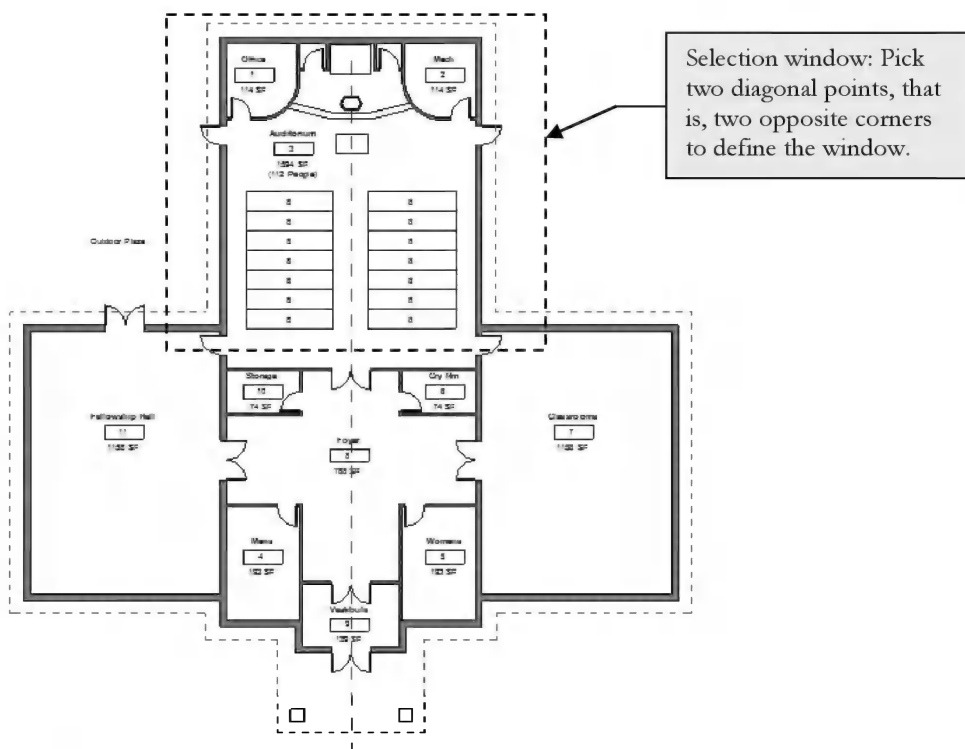

FIGURE 1-5.2 Zoom In window
5. Drag a window over your plan view (Figure 1-5.2).